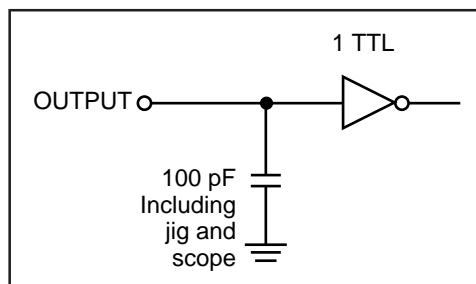

Figure 1
Output Load	See Figures 1
- Test conditions assume signal transition times of 5 ns or less, input pulse levels of 0.4V to 2.2V and output loading specified in Figure 1.
1. Test conditions assume signal transition times of 5 ns or less, input pulse levels of 0.4V to 2.2V and output loading specified in Figure 1.